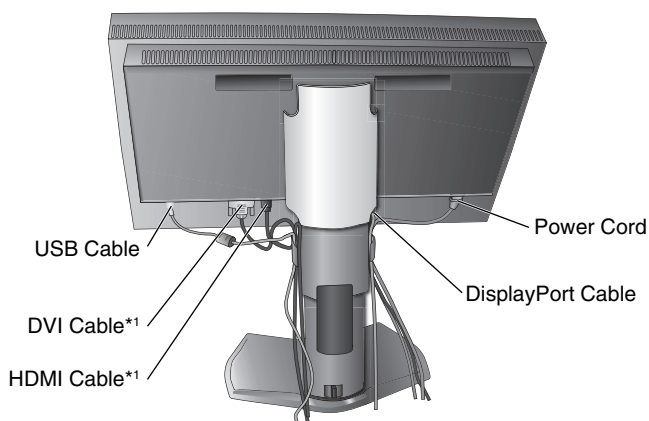
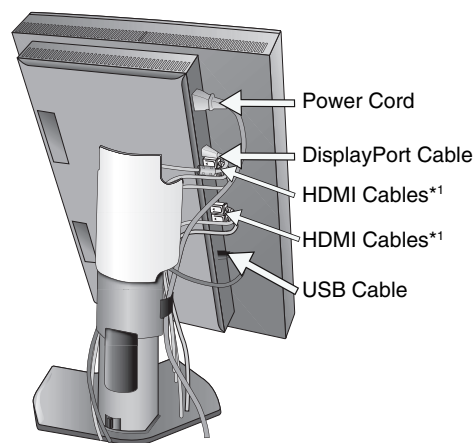

Figure C.2
Figure C.3
- 5. To keep the cables neatly organized, place them into the cable management system that is built into the stand. Place the cables in the hooks firmly and evenly (**Figure C.2** and **Figure C.3**).